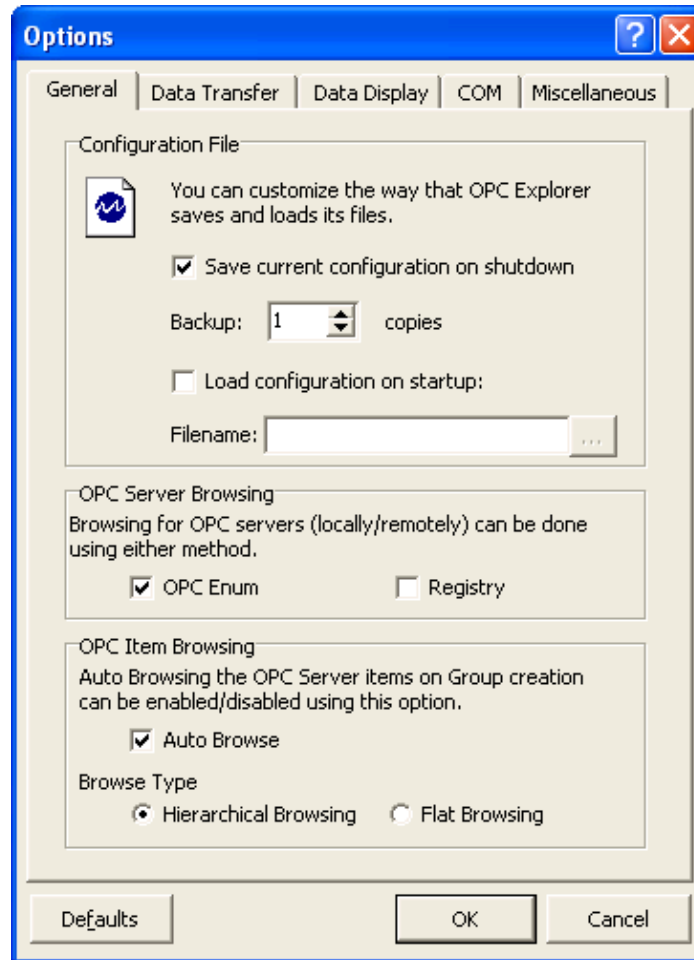

Figure 29 - General Options Tab
3. From the **Options** window, select the **General** tab (Figure 29).